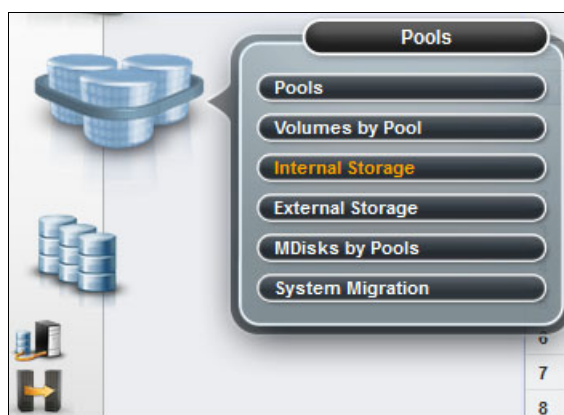

Figure 9-4 Pools menu
1. Hover the cursor over the **Pools** icon. The Pools menu opens (Figure 9-4).